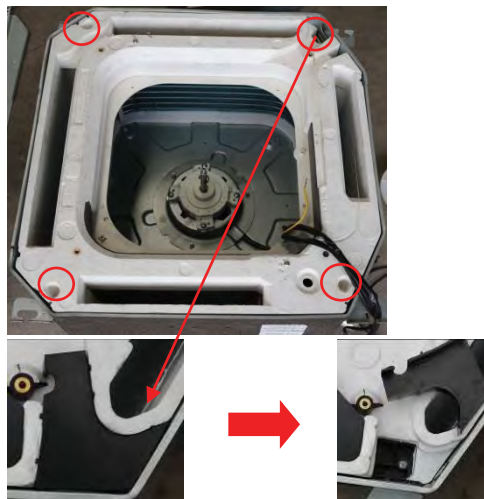

Figure 161
- ▶ Step 2: Remove 4 screws to disassemble the water collecting assembly. 1 screw is located under the protection cover as shown in Fig. 161.